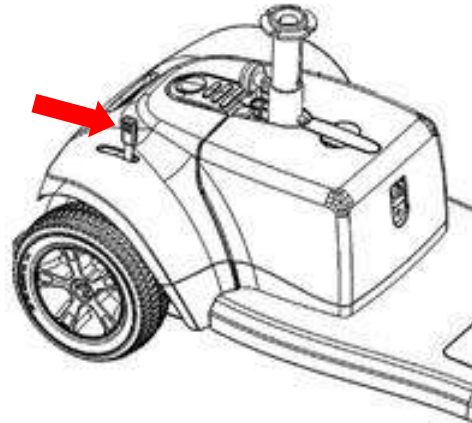

Fig 6.7.2 Freewheel Mode (Open)
**2. Freewheel position** - is indicated by 'Open' – push the lever forwards for this position. (Fig 6.7.2)